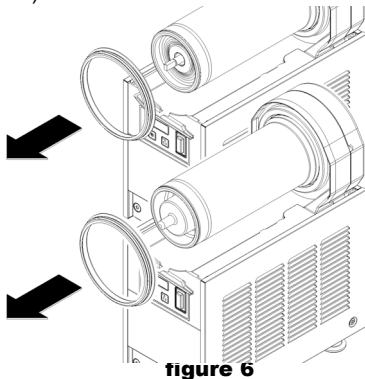

figure 6
- 4** Remove the bowl gasket from its seat (see figure 6).